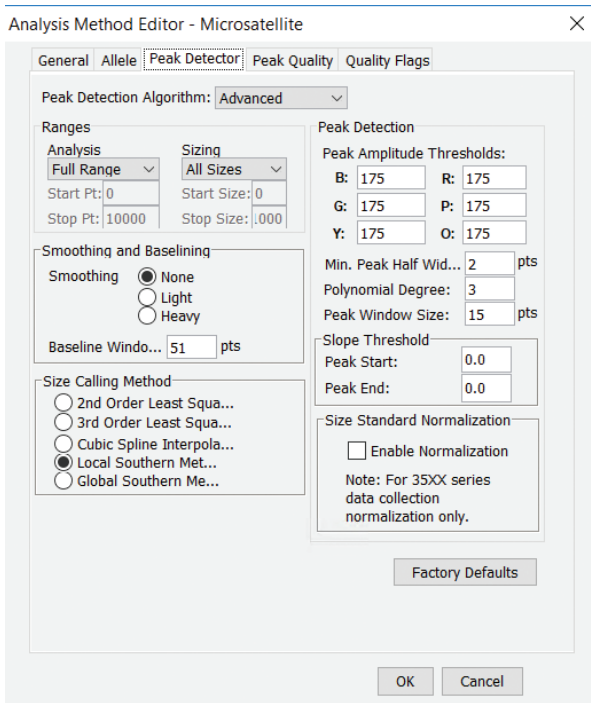

Figure 13. The GeneMapper® Software, version 5 or higher, 'Peak Detector' tab.
9. Select the 'Peak Detector' tab (Figure 13). You may need to optimize these settings. In-house validation should be performed.